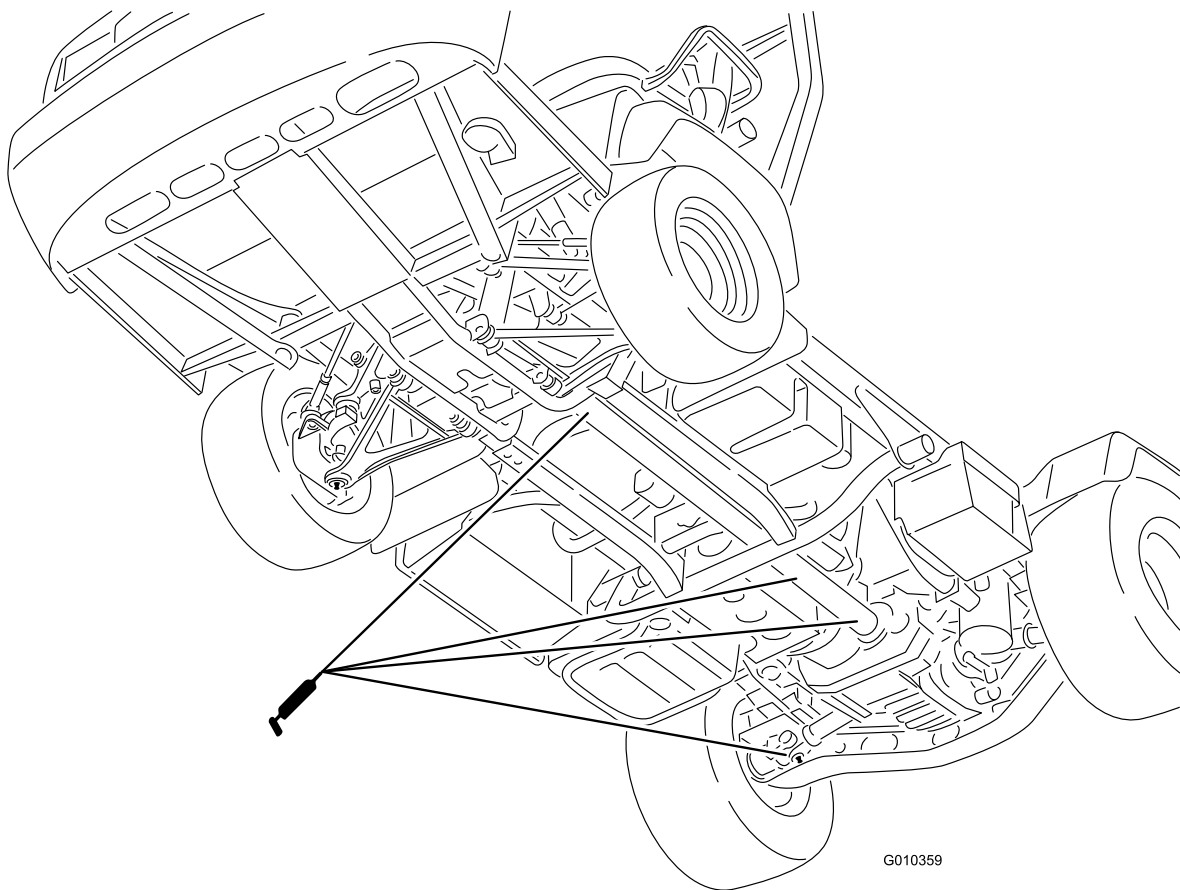

Figure 37
- U-joint (18) and 4 wheel drive shaft (3) (Figure 37)